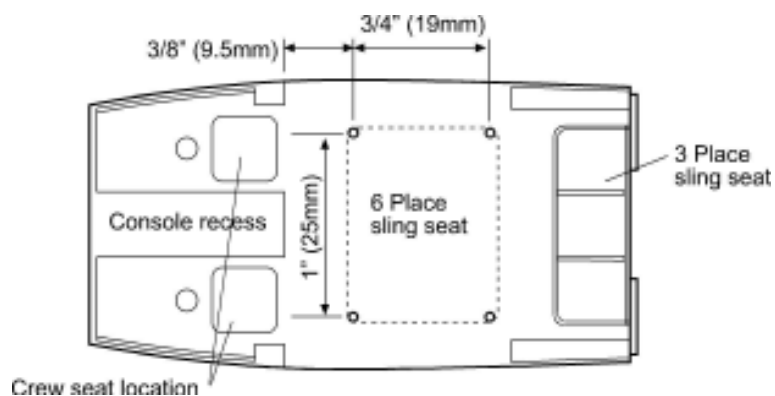
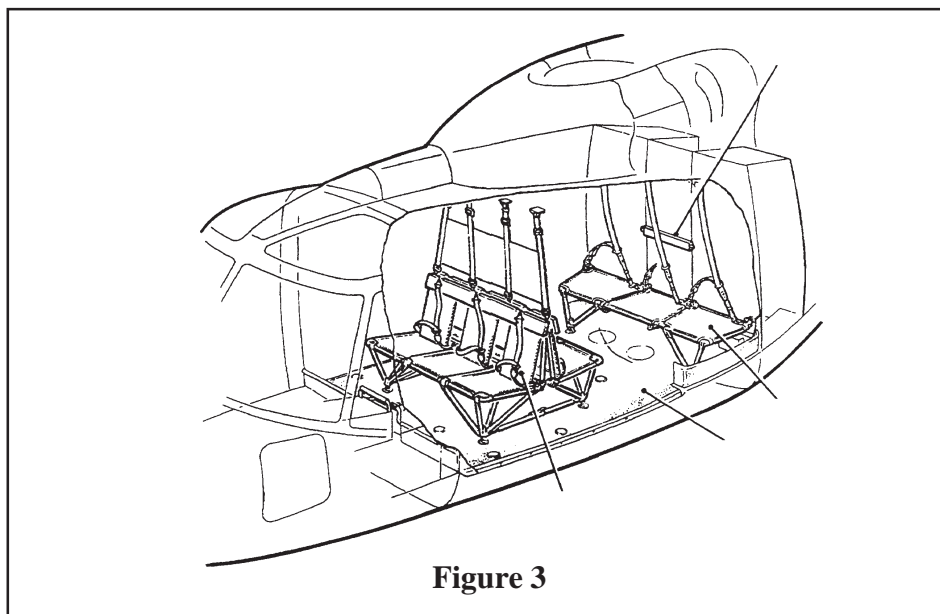

Figure 1
Figure 3
5. Glue the centre console base (part 6) in the recess shown in Figure 1.
10. Most use a sling-type rear troop seat (part 15). You will need to build the seat supports from 0.030" (0.75mm) rod or brass wire. I would suggest making a jig from sheet plastic, drilling a hole pattern as shown in Figure 1, fit the uprights into the jig, attach the seat and additional braces and then remove the whole assembly from the jig. The after sling seat (part 16) also requires you to build the seat supports per Figure 3.